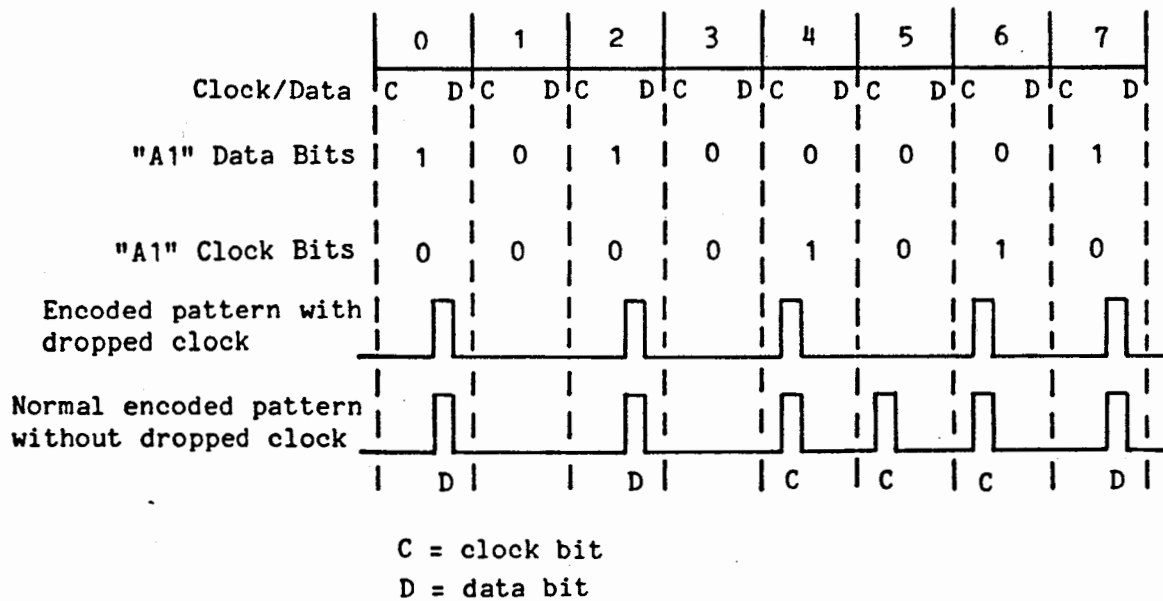

Figure 5-2. "A1" Address Mark Byte
- b. The beginnings of the ID field and the data field are flagged by unique characters called address marks. An address mark is two bytes long. The first byte is an "A1" data pattern. This is followed by either an "FE" pattern (which is the pattern used to define an ID address mark), or an "F8" pattern (which is the pattern used to define a data address mark). The "A1" pattern is made unique by violating the encoding rules of MFM by omitting one clock bit. This makes the address mark pattern unique to any other serial bit combination, see Figure 5-2.